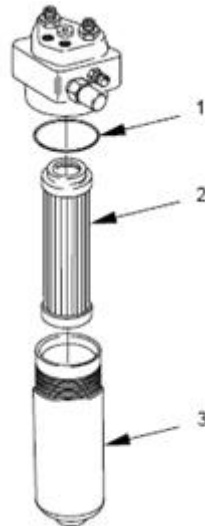

Figure 2 Pressure Reduction Oil Filter
- 15. Removal.** Remove the pressure reduction filter element as follows (Fig 2):
- c. Dismantle the filter housing (Fig 2, Item3)
- d. Remove and discard the sealing ring and the filter insert (Fig 2, Items 1 and 2).
- 16. Installation.** Install the pressure reduction filter element as follows (Fig 2):
- a. Clean the filter housing (Fig 2, Item 3).
- b. Fit a new insert (Fig 2, Item 2).
- c. Fit a new seal ring (Fig 2, Item 1).
- d. Reassemble the filter housing (Fig 2, Item 3).